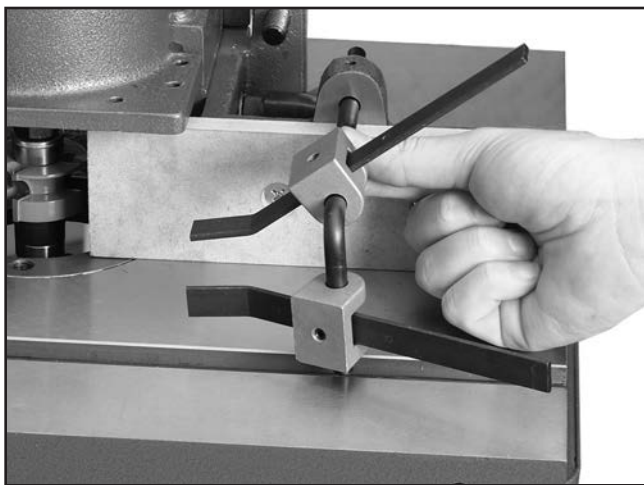

Figure 27. Inserting hold-down bar into fence bracket.
2. Slide the long arm of the hold-down bars through the holes in the cast iron fence brackets, as shown in **Figure 27**.